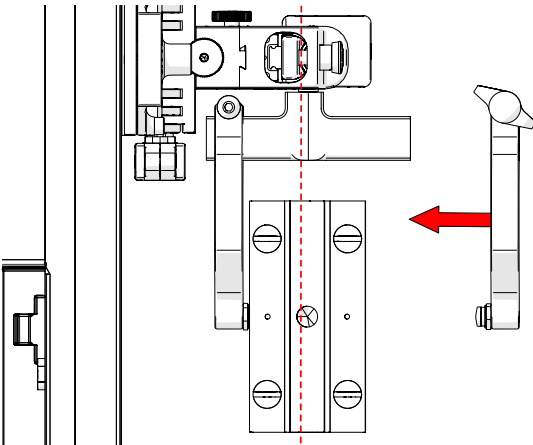

Fig. 92 - Align probe with yoke
6. Align the middle of the wedge with the centre of the yoke (Fig. 92).